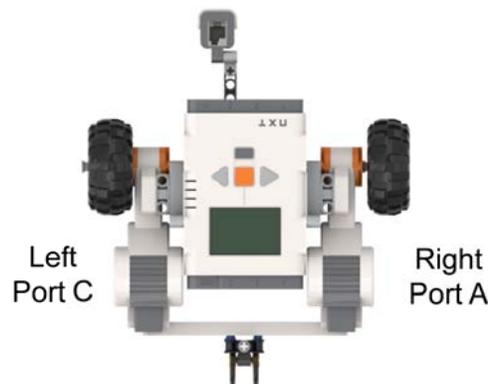

Figure 1-1: Mount NXT Light Sensor on Domabot front. Sensor should be about 2-mm off the floor
Step 1: First construct a light sensor that mounts on the Domabot's front (see **Figure 1-1** below).